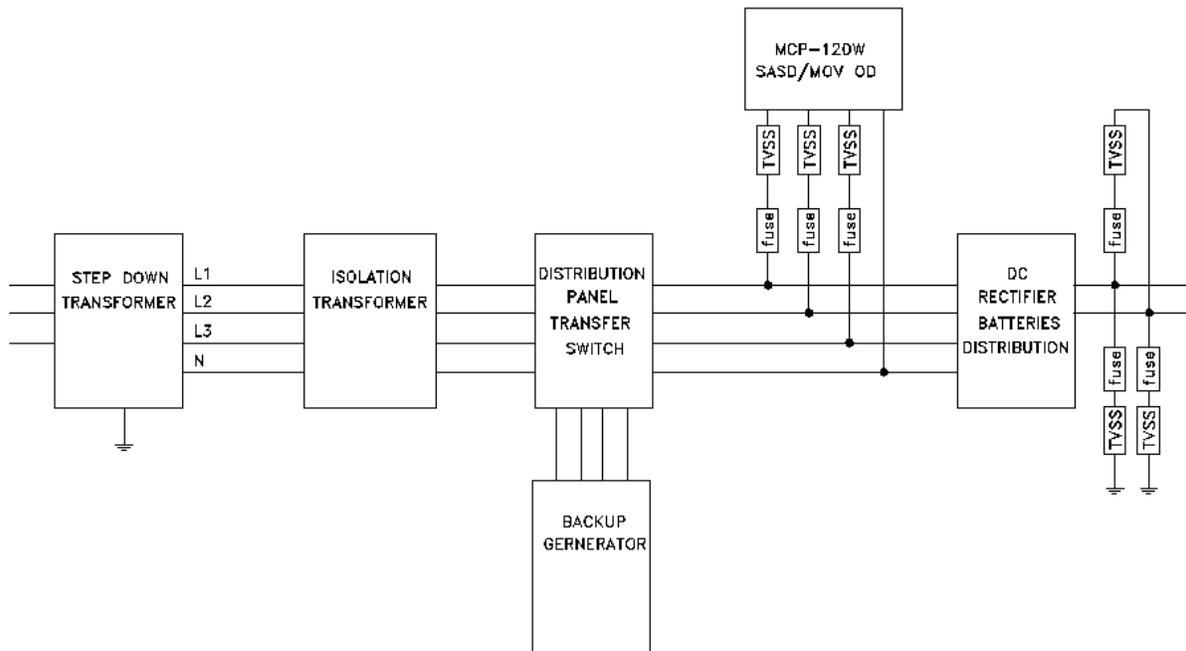

Figure 1
- 7.1 Electrical Installation. The suppressor is intended to be installed as close as possible to the sensitive electronics and should be connected through a dedicated 60Amp (not less than 20A), two-pole circuit breaker with a fault current rating not less than 5kA AIC. The device should be installed on the “load” side of any transfer switch mechanisms. Refer to figure 1 for connection details.